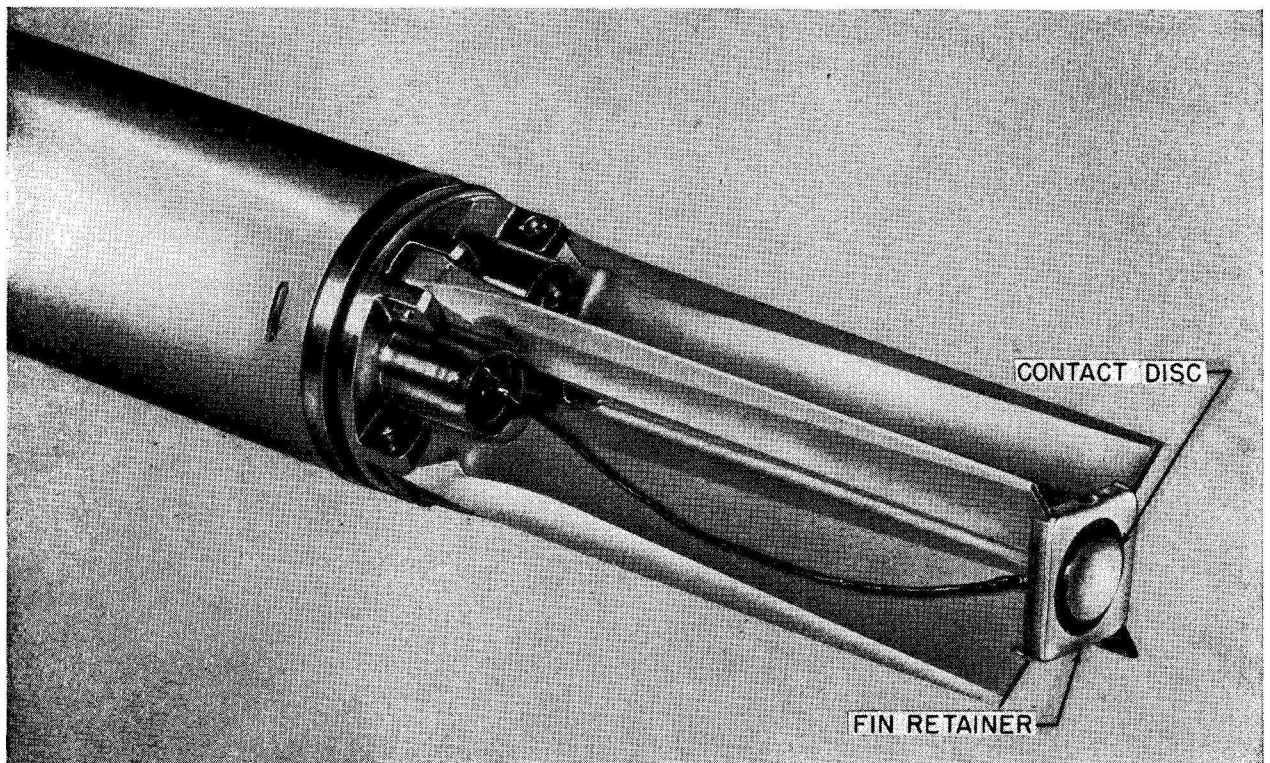

Figure 4—Nozzle-Fin Assembly, Fins Closed.
**FINS.** The fins are shaped aluminum-alloy plates  $6\frac{1}{2}$  inches long and  $1\frac{1}{4}$  inches wide. They taper uniformly in thickness from base to tip, and are bevelled on both edges. The fins are attached by pivot pins to lugs machined on the after part of the nozzle plate. When folded, figure 4, they lie within the 2.75-inch diameter of the round. The fins are notched at the tips to allow attachment of a fin retainer, and are
**FIN RETAINER.** The fin retainer, figure 4, is a 1¼-inch square aluminum frame which engages